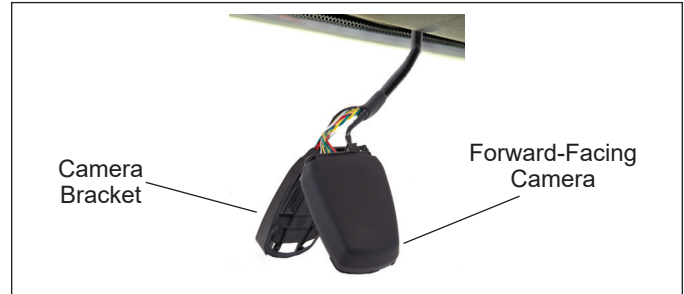

Figure 4 – Forward-Facing Camera & Bracket Example
- When applicable, the windshield bracket holds the camera secure and keeps it facing the correct direction to help to successfully determine lane width and position. See Figure 4.